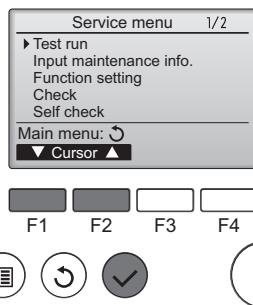

Fig. 6-3
- Select "Test run" with the [F1] or [F2] button, and press the [SELECT] button. (Fig. 6-3)